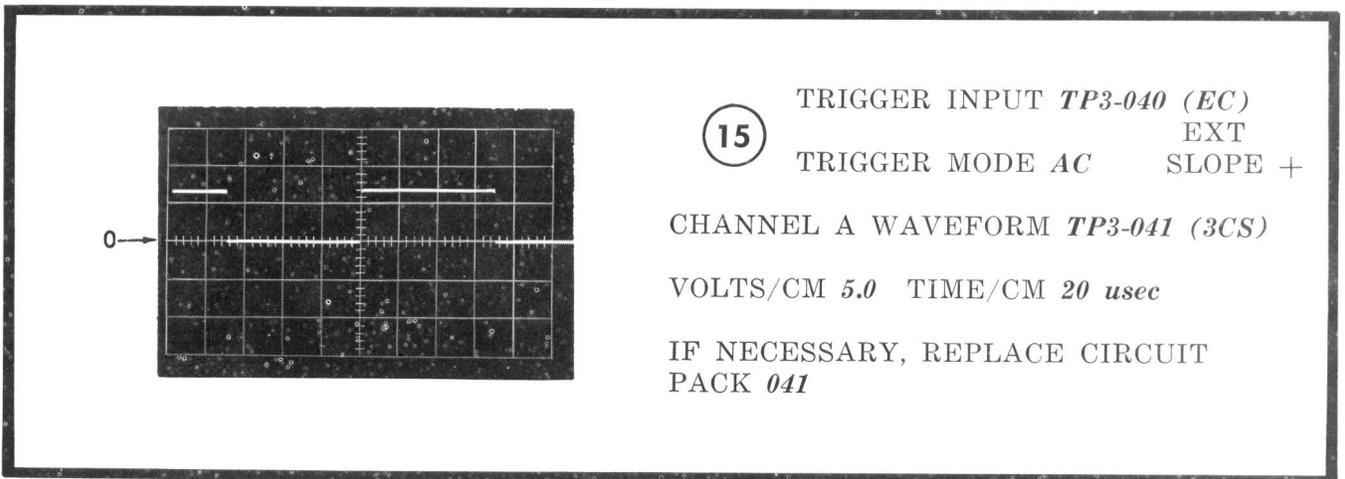

Fig. 14 — Transmitter Timing Tests
11.20 Waveforms shown in Fig. 10 through Fig. 14 are keyed to the functional schematic shown in Fig. 15 (sheet 2). The waveforms illustrate normal operation of the flip-flop circuits when the data set is in LOCAL TEST condition.